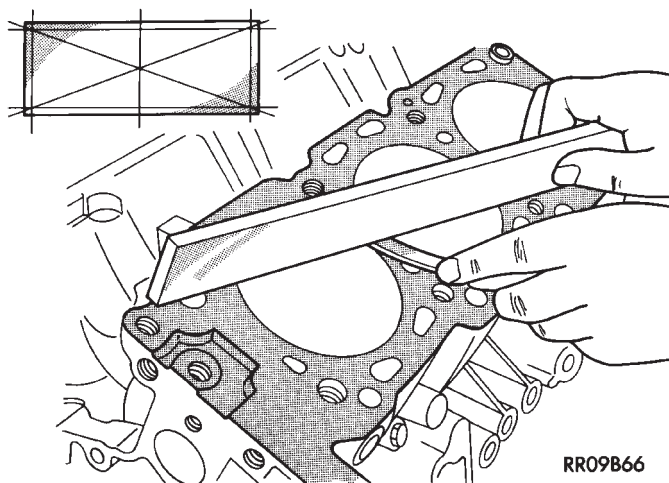

Fig. 93 Distortion Check
(1) Clean cylinder block and check top surface for distortion with a straight edge and thickness gauge (Fig. 93).
- (2) Top surface must be flat within: